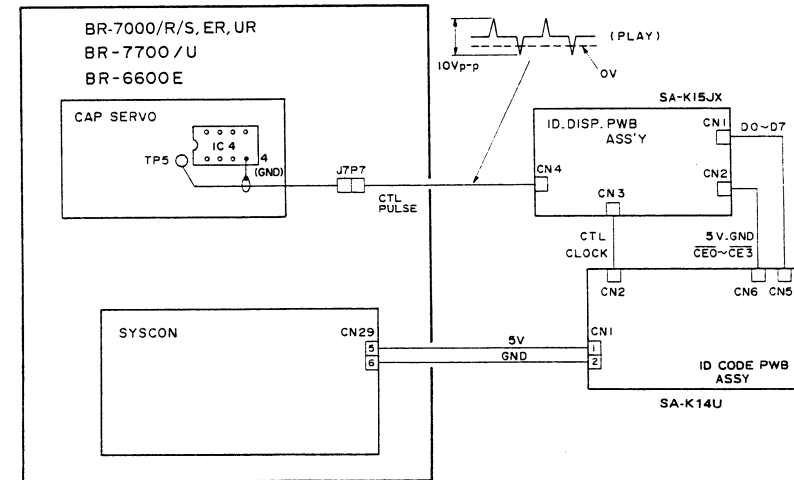
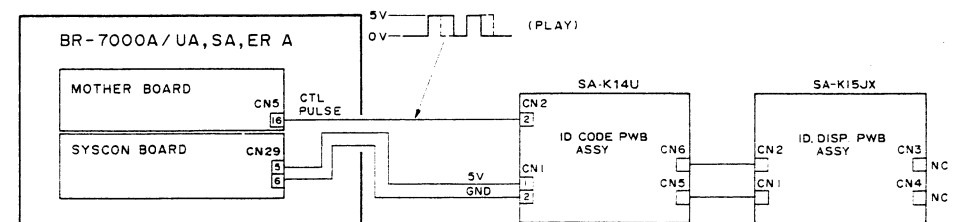

Fig. 1-3
Fig. 1-4
Fig. 1-3 shows a connection manner for the BR-7000ER and BR-6600E, while Fig. 1-4 shows that for the BR-7000ERA.
4. The connection shown in Fig. 1-4 is not for recording ID code but only for reading it.